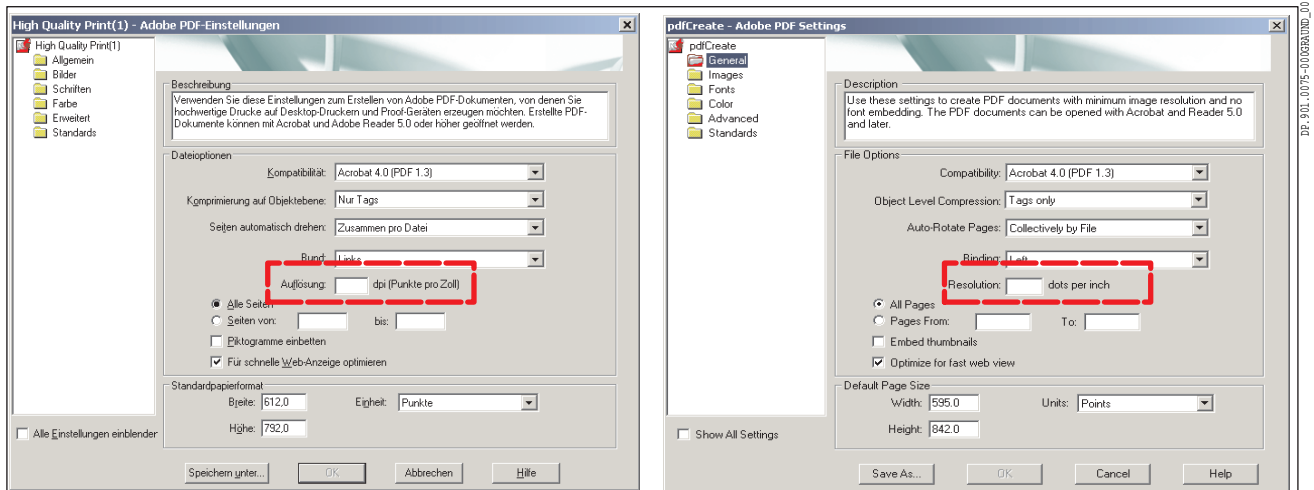

Fig. 24 The **General** section
3. Set the other parameters as shown in Fig. 24. The other parameters are preset to the standard configuration except for **Compatibility**.
1. Set the parameters in the **General** section as shown in Fig. 24. Set the **Resolution** to the exact output resolution of your imagesetter.